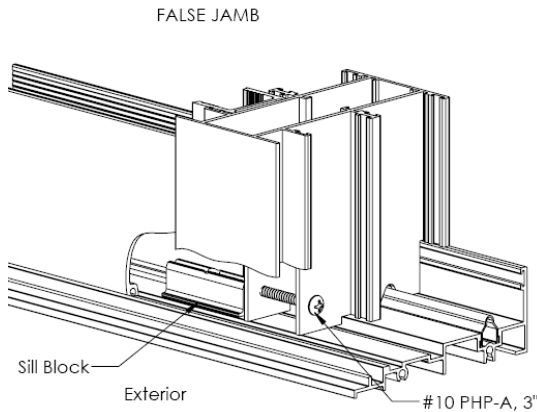
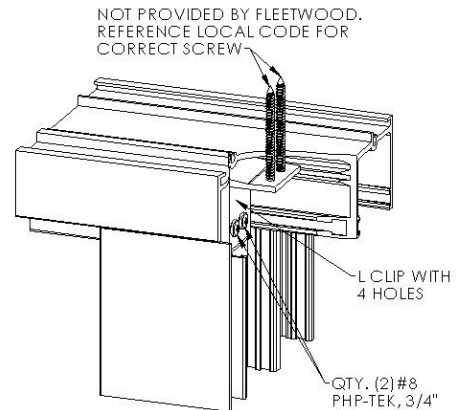

Figure 22:
Figure 23:
- Attach the false jamb to the sill block using a (1) #10 PHP-A, 3" screw. (Figure 22)
- Attach the "L" Bracket to the top of the False Jamb using (2) #8 x 3/4" PHP TEK screws.
- Attach the "L" Bracket through the Head of the Frame, into the Header using the appropriate size screw required by local code (not by Fleetwood) (Figure 23).